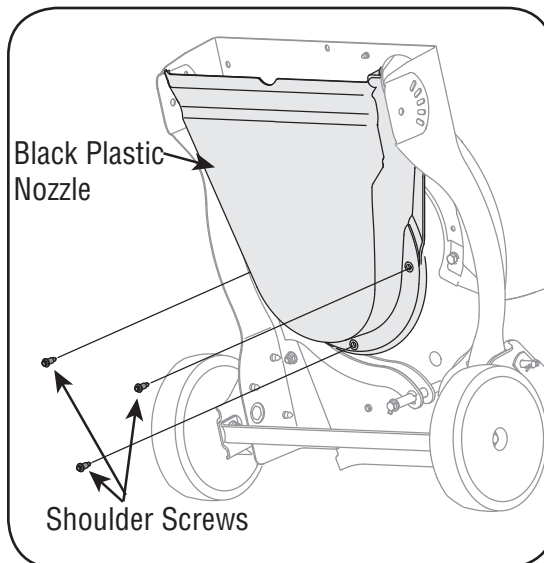

Figure 5-8
7. Carefully tilt and support the unit up to provide access underneath to the nozzle mounting hardware and impeller. Remove the three shoulder bolts securing the black plastic lower flail housing to the lower housing. Refer to Figure 5-8.